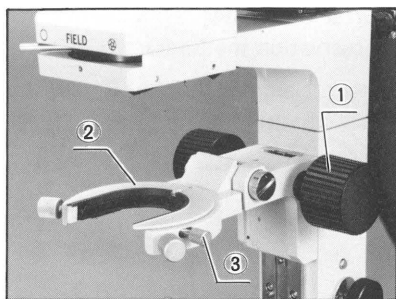

Fig. 1
## ① Mounting the DIC Turret Condenser (IMT2-LWDNC) (Fig. 1)
- 1) Tighten the condenser holder clamping knob ①.
- 2) Insert the circular dovetail of the condenser into the condenser holder ② and clamp the condenser with clamping knob ③.